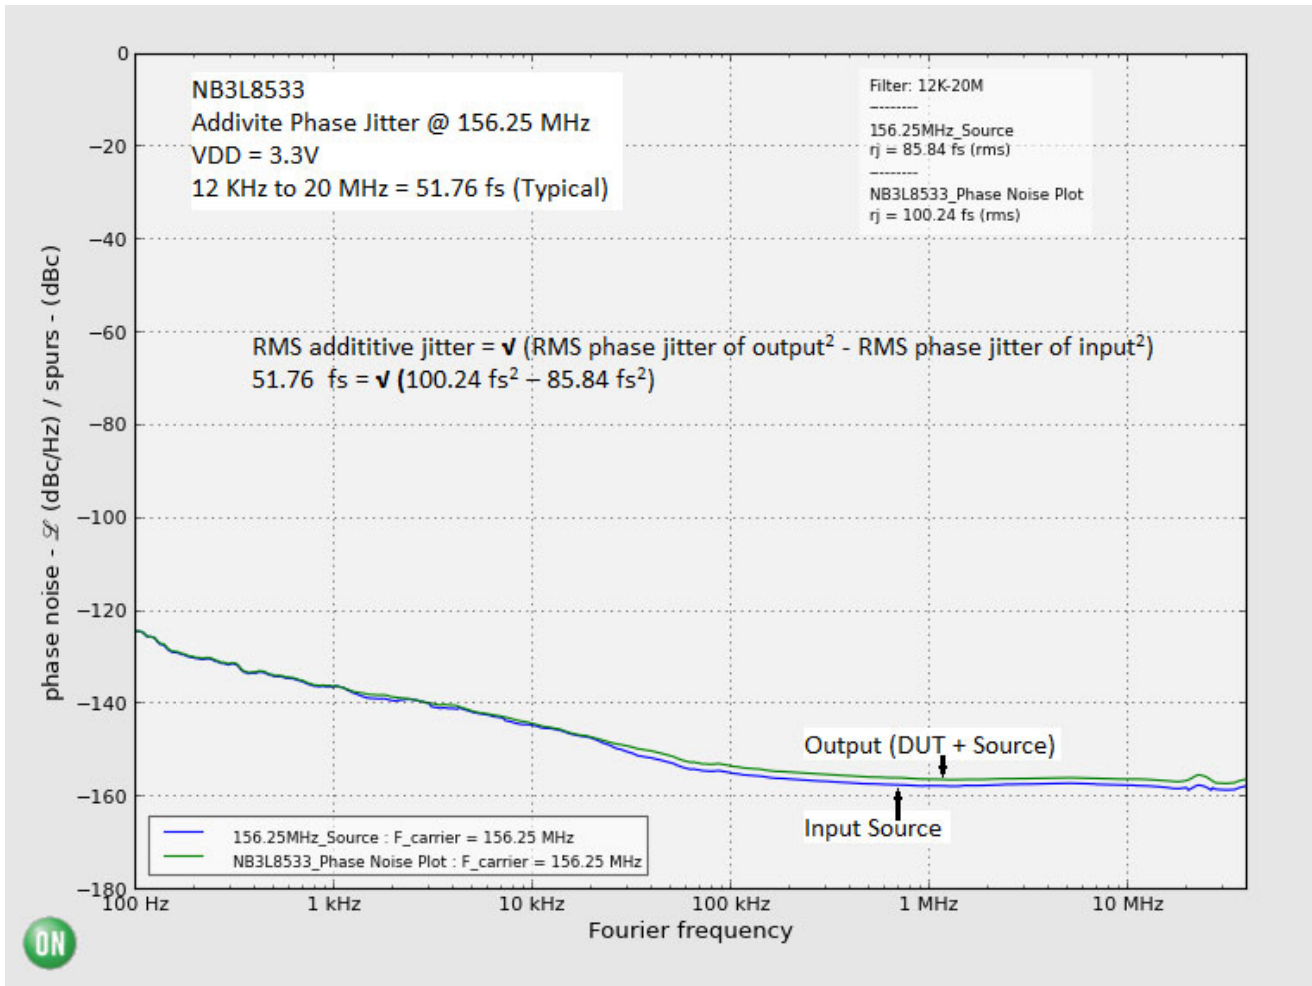

Figure 3. Typical Phase Noise Plot at $f_{\text{carrier}} = 156.25$ MHz at an Operating Voltage of 3.3 V, Room Temperature
1. After CLK_EN switches, the clock outputs are disabled or enabled following a rising and falling input clock edge as show in Figure 3.